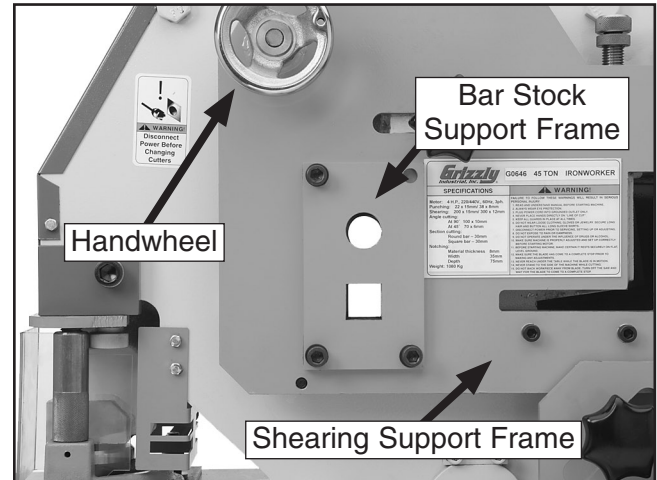

Figure 35. Bar stock support frame openings aligned with die openings.
4. Rotate the support frame handwheel to align the bar stock openings in the support frame with the openings in the dies (see **Figure 35**), then re-tighten the lock knobs.